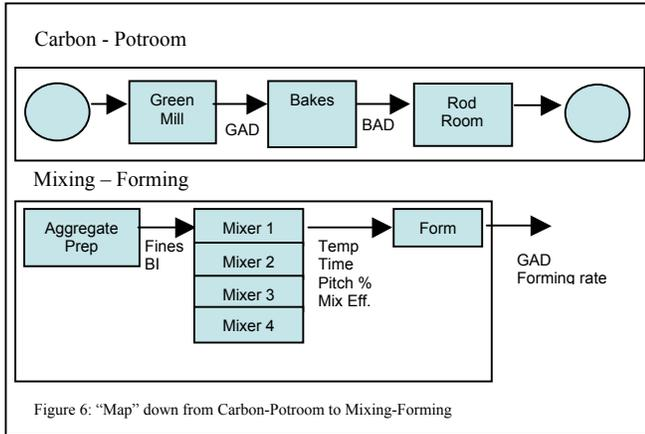

Figure 6: "Map" down from Carbon-Potroom to Mixing-Forming
STEP 4 Through the use of process mapping; drill down into the process to align the process at the operational level with the rate and quality requirements (Figure 6).